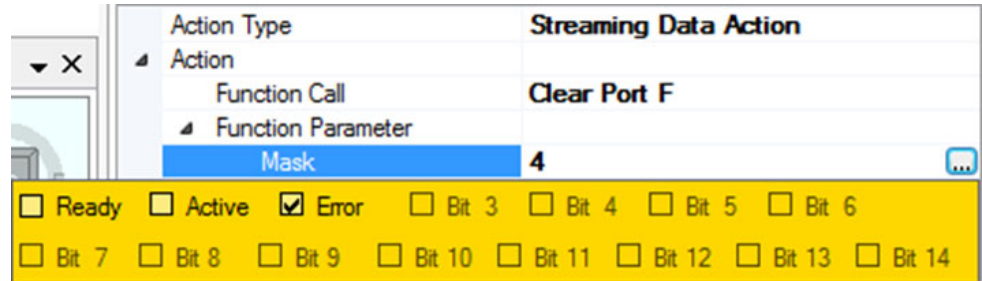

Figure 165: Clear Port F
1. Clearing Port F returns Ready, Active, or Error to their default logic. Figure 165 (below) shows a configuration which will return the Error signal to its default logic and will not change the Ready or Active signals.